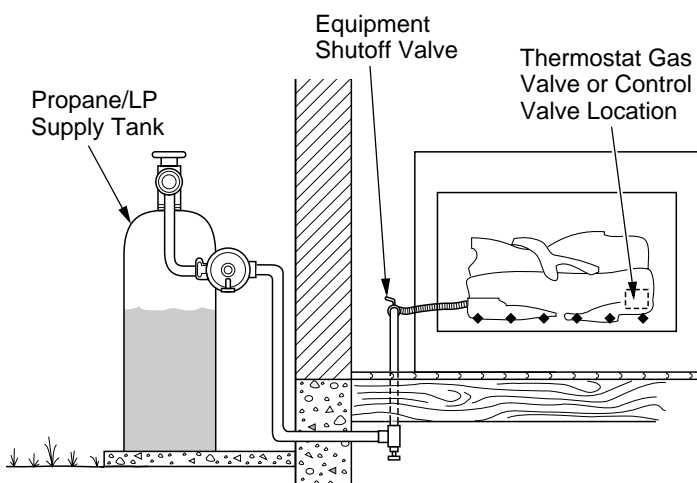

Figure 19 - Checking Gas Joints (Propane/LP Only)
3. Check all joints from gas meter to equipment shutoff valve for natural gas or propane/LP supply to equipment shutoff valve for propane/LP (see Figure 19, page 14). Apply noncorrosive leak detection fluid to all joints. Bubbles forming show a leak.
4. Check all joints from equipment shutoff valve to thermostat gas valve (Thermostat-Controlled Models), to control valve (Manually-Controlled Models), or to gas control (Remote-Ready Models)(see Figures 19 and 20). Apply noncorrosive leak detection fluid to all joints. Bubbles forming show a leak.